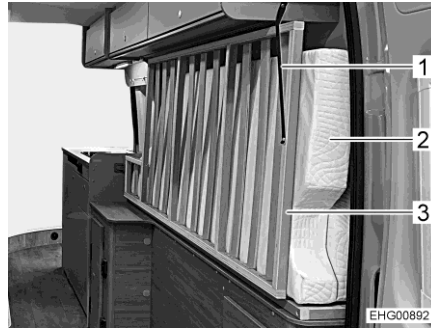

Fig. 54 Right-hand bed in transport position
- Fold the mattress (Fig. 54,2) of the right-hand bed (seen in the direction of travel) lengthwise and push it completely outwards standing on its edge (see Fig. 54).
- Fold up the bed base (Fig. 54,3) of the right-hand bed.
- Secure the rear end of the bed base with the retaining strap (Fig. 54,1).